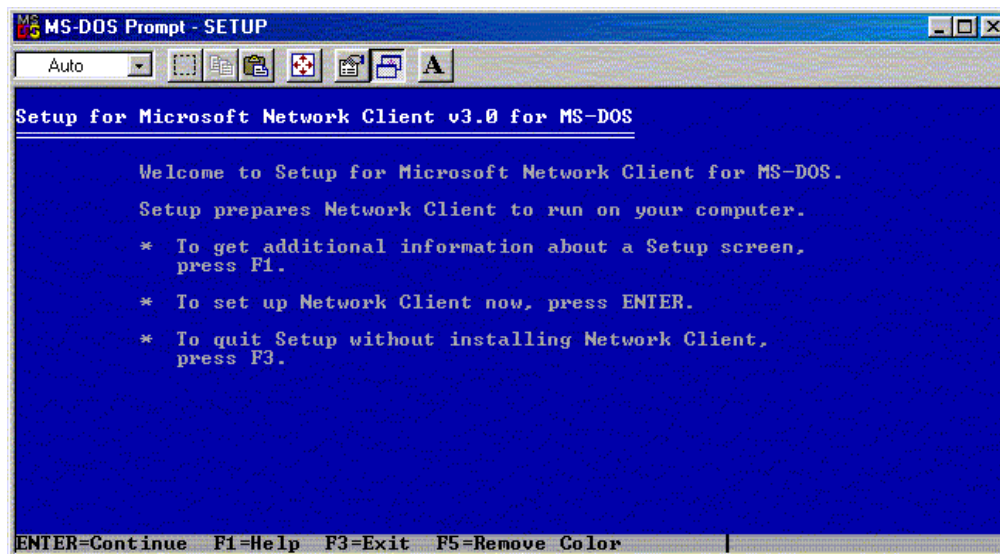

Figure A-6: Initial Network Client 3.0 installation screen
3. Change to the diskette drive and launch the setup file from the diskette drive by entering `SETUP` at the DOS prompt. A screen similar to Figure A-6 is displayed.